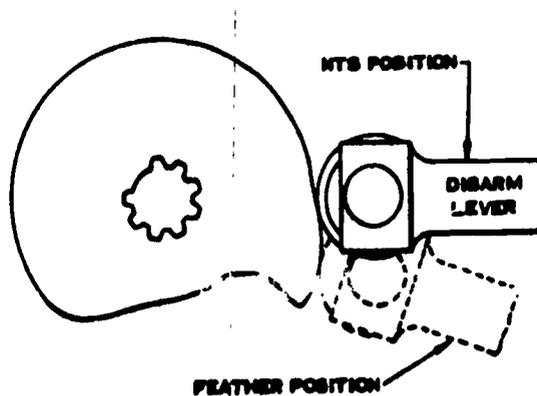

Figure 7. Disarm and Feather Cam Positions.
c. Move the input lever to rotate the disarm and feather cam to the position shown in figure 7 so that the roller is approximately half way up the rise portion of the cam. This is the approximate NTS position. Adjust the switch so that a continuity is obtained between pin E of the receptacle